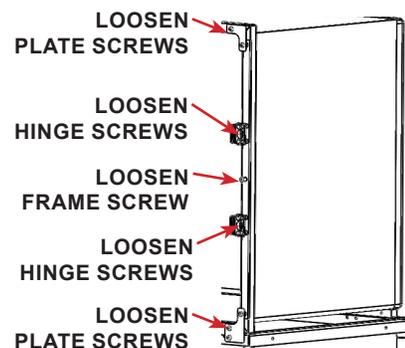

FIGURE 2.54 - Loosen Hardware
STEP 3: Loosen, but do NOT remove the screws along the side of the cage holding the trim plates and door hardware. See FIGURE 2.54